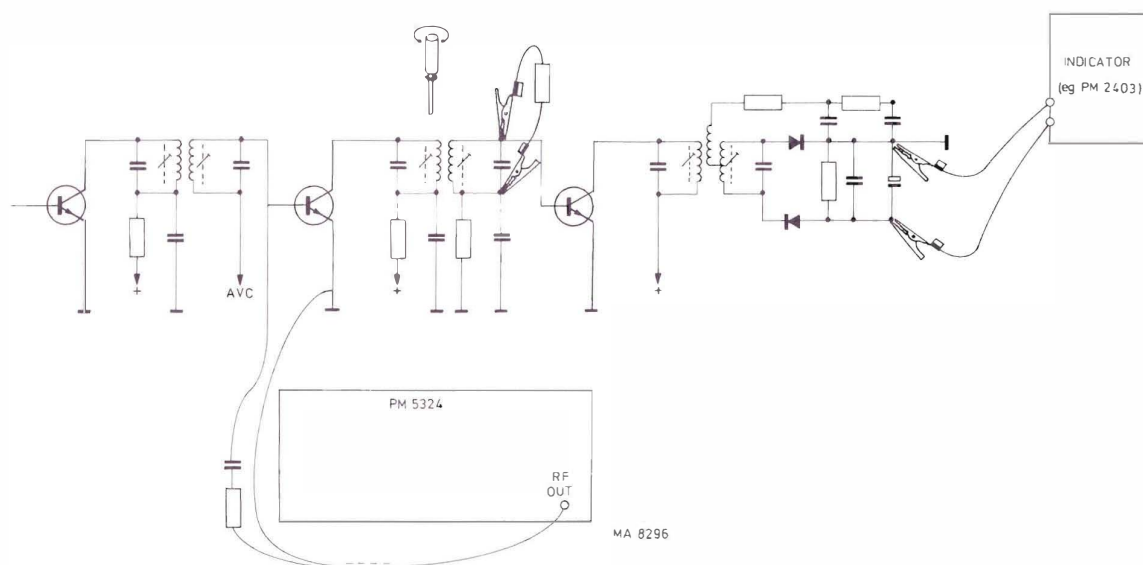

Fig. 14. Alternately damping and adjusting the primary and secondary circuits
- Connect the indicator according to Fig. 14
- Adjust the core of the primary circuit (Fig. 14) of the ratio detector to maximum deflection of the indicator
- The circuits of a band-pass filter which are not adjusted should be terminated with a resistor of approx. $10\text{ k}\Omega$ during the adjustment of a circuit of the band-pass filter (Fig. 14).